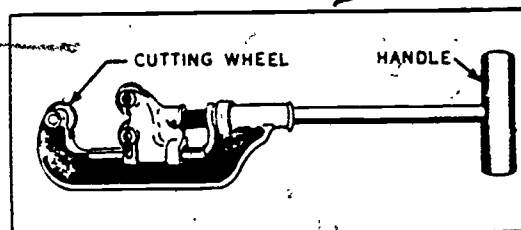

Figure 3-31. Pipe cutter.
*Pipe cutters.* A pipe cutter is shown in figure 3-31.